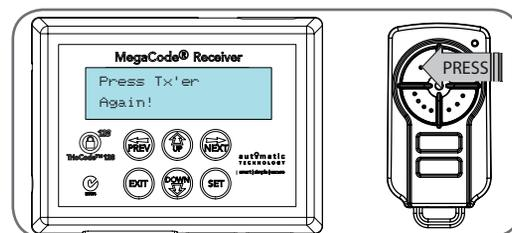

Fig 4.4
- Press the hold for approximately 2 seconds the same transmitter button again as prompted by the display (Fig. 4.4).